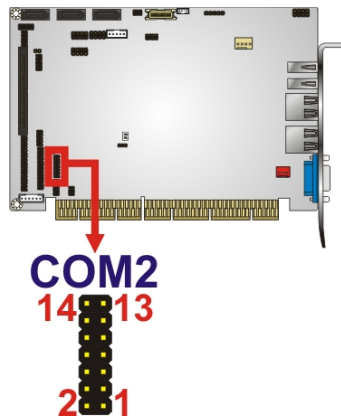

Figure 3-18: COM2 Location
- CN Location:** See **Figure 3-18**